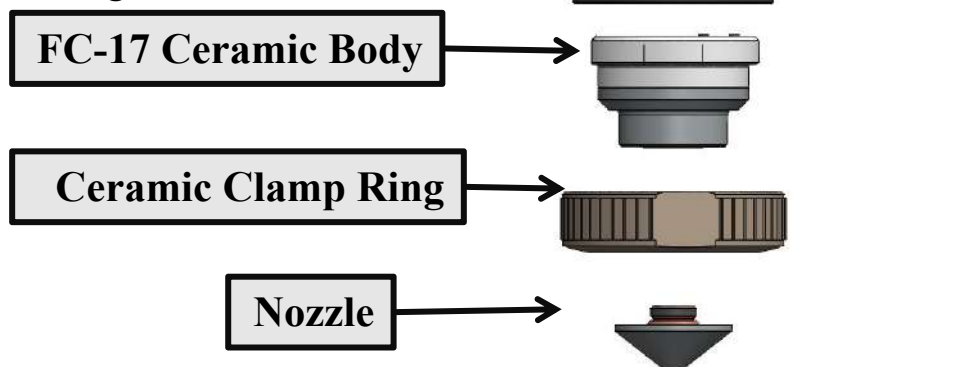

Figure 4.6
- ① Remove the nozzle counterclockwise, as shown in Figure. 4.6.
- ② Remove the ceramic clamp ring counterclockwise, as shown in Figure 4.6.
- ③ Remove the ceramic body vertically downward, as shown in Figure. 4.6.